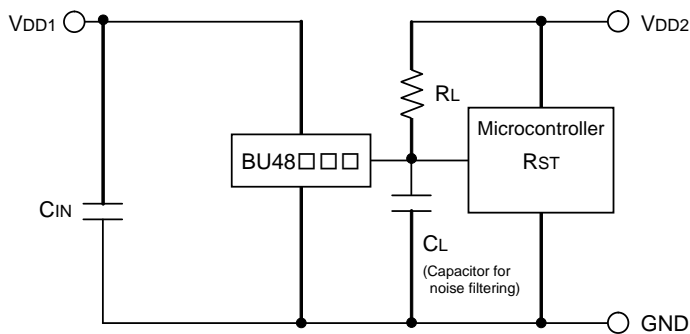

Fig.16 Open collector Output type
The power supply of the microcontroller (VDD2) differs from the power supply of the reset detection (VDD1). Use the Open Drain Output Type (BU48□□G/FVE) attached a load resistance (RL) between the output and VDD2. (As shown Fig.16)